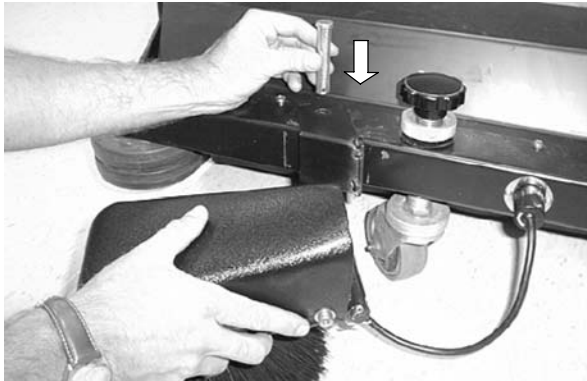

FIG. 4
2. Align mounting hole on side brush arm with hole located next to brush adjustment knob as shown. Insert pin and secure with cotter pin provided (Figure 4).